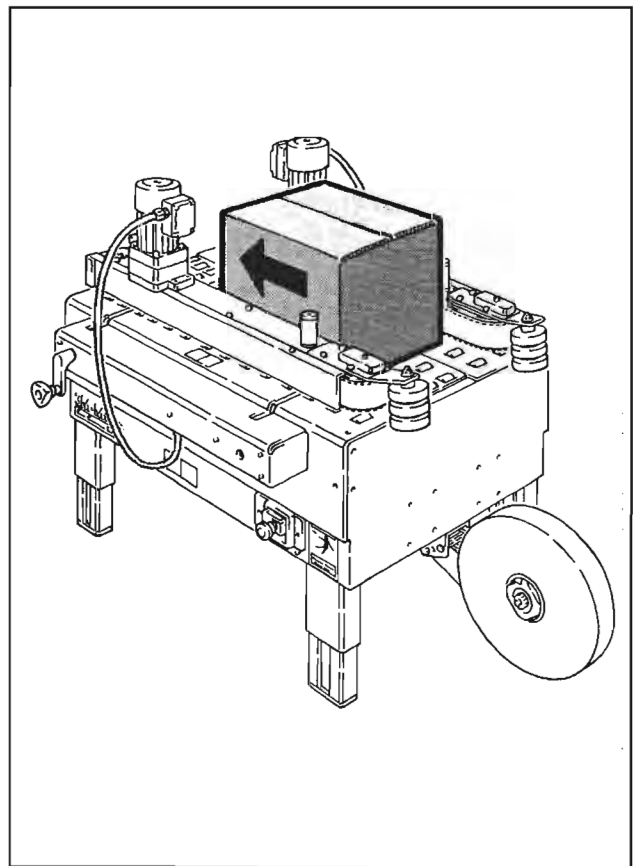

Figure 3-3 – Check Adjustment
2. RUN BOXES TO CHECK ADJUSTMENT (Figure 3-3)